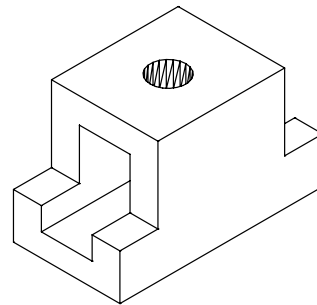

Figure 3-54 Model after subtraction
23. Subtract this cylinder from the existing model, refer to Figure 3-54.